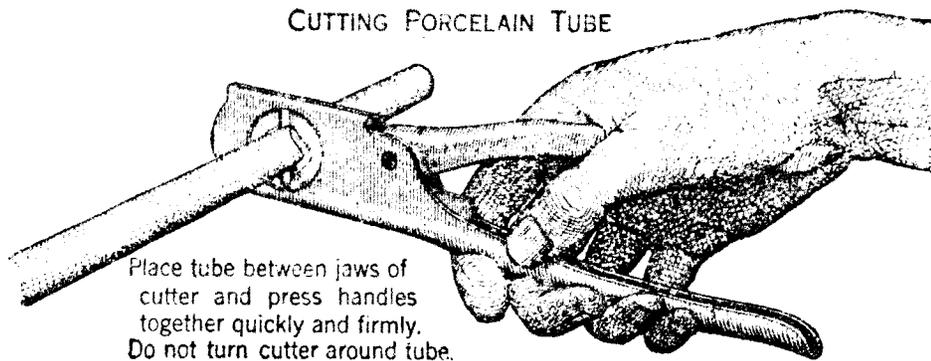

Fig. 10.
6.02 In locations where appearance is important, cut off any projection of 3/8 inch tubes beyond one inch as shown in Fig. 10. In locations where appearance is not important, tube need not be cut unless exposed portion is subject to breakage. As it is impracticable to cut 3/4 inch or 1 inch tubes, select length that will give least projection over 1/4 inch.